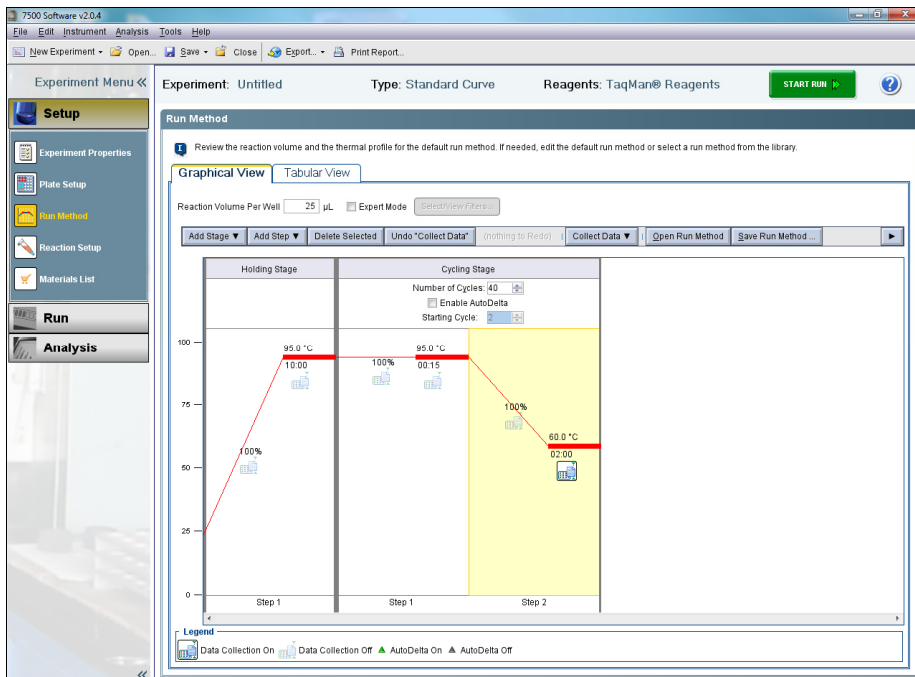

Figure 2. Run method.
6. Under "Setup", select "Run Method" menu (Figure 2). Enter "25  $\mu$ L" for "Reaction Volume Per Well". Adjust parameters as follows: